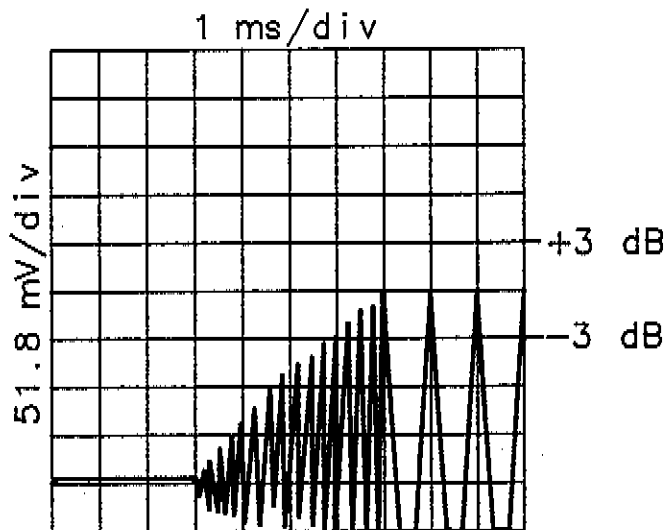

Figure 4-10. Amplitude Recovery Measurement Waveform
27. Press the digitizer (**STORE M1**) key on the oscilloscope and step the Signal Generator to the stop frequency with the **FREQ INCREMENT** key. The oscilloscope should digitize the switching waveform as the frequency changes. The waveform should now look like that shown in Figure 4-10.